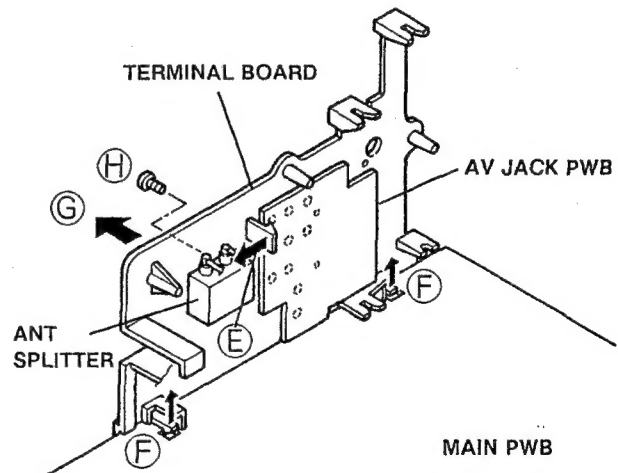
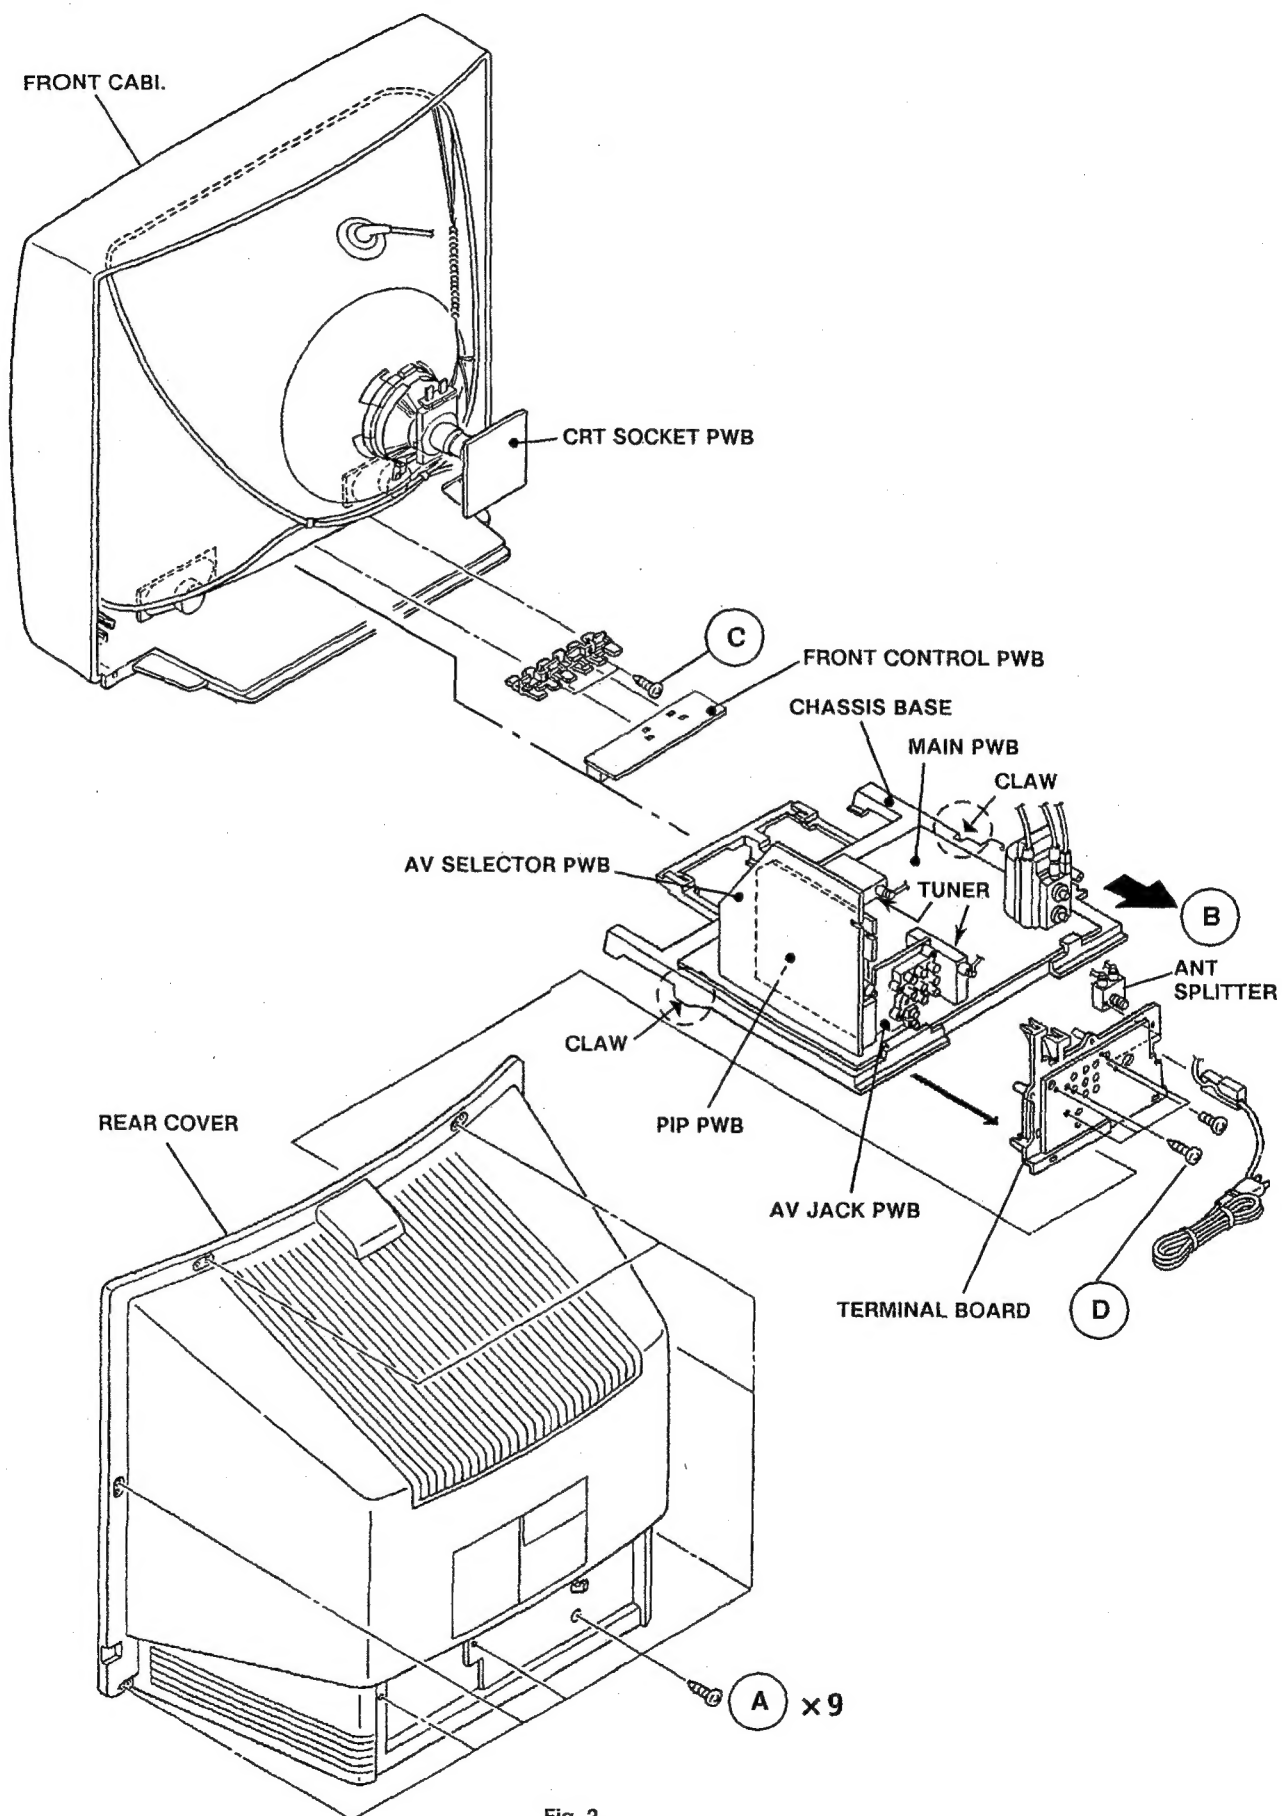

Fig.1
Fig. 2
2. Remove the nine screws marked (A) as shown in Fig. 2.
- 2. Draw the chassis backward along the rail in the arrow direction marked (B) as shown in the Fig. 2.
- 1. Remove the 2 screws marked (C) as shown in Fig. 2.
- 1. Remove the 4 screws marked (D) as shown in Fig. 2.
- 2. After removing the claw marked (E) from the AV JACK PWB in the direction of arrow mark as shown in Fig.1, remove the 2 claws marked (F) in the direction of arrow mark, then take off the TERMINAL BOARD in the direction of arrow marked (G).
1. Remove a screw marked (H) as shown Fig.1.
(1) Power off Switch off the power and disconnect the power cord from the outlet.
(2) Replace the memory IC. Initial value must be entered into the new IC.
(3) Power on Connect the power cord to the outlet and switch on the power.
(4) System constant check and setting 1) Simultaneously press the DISPLAY key and VIDEO STATUS key of the remote control unit. 2) The SERVICE MENU screen of Fig. 1 is displayed. 3) While the SERVICE MENU is displayed, again simultaneously press the DISPLAY and VIDEO STATUS keys to display the Fig. 2 SYSTEM CONSTANT screen. 4) Refer to the SYSTEM CONSTANT table and check the setting items. Where these differ, select the setting item with the MENU UP / DOWN key and adjust the setting with the MENU LEFT / RIGHT keys. (The letters of the selected item are displayed in yellow.) 5) After adjusting, release the MENU LEFT / RIGHT key to store the setting value. 6) Press the EXIT key twice to return the normal screen.	 <p>Fig. 1</p>
(5) Receive channel setting Refer to the OPERATING INSTRUCTIONS (USER'S GUIDE) and set the receive channels (Channels Preset) as described.
(6) User settings Check the user setting items According to Table 2. Where these do not agree, refer to the OPERATING INSTRUCTIONS (USER'S GUIDE) and set the items as described.	 <p>Fig. 2</p>
(7) SERVICE MENU setting Verify what to set in the SERVICE MENU, and set whatever is necessary. (Fig. 1) refer to the SERVICE ADJUSTMENT for setting.